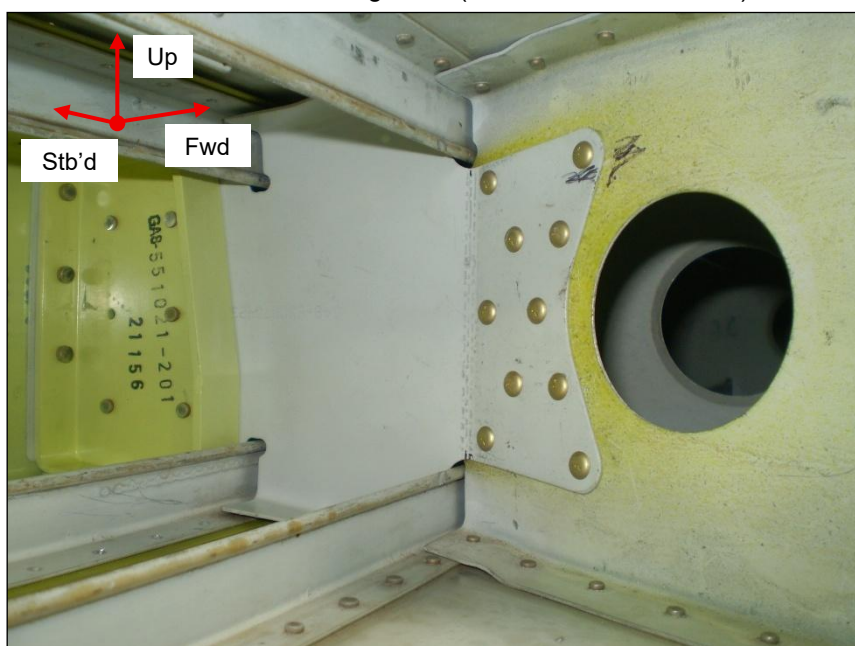

Figure 8: Rib Section and Stiffener Installed
- 13.5.3 Rivet each Rib 1 Section complete with Stiffener Bracket to inboard rib forward section using 10 x MS20470AD4 rivets in each rib. See Figure 8. (Left hand side Pictured)